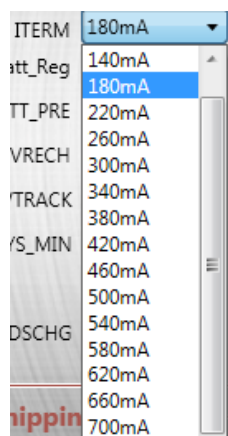

Figure 10: Terminal Charge Current Setting
- Set the terminal charge current (see Figure 10). Its range is 100mA to 700mA, and the default value is 180mA.